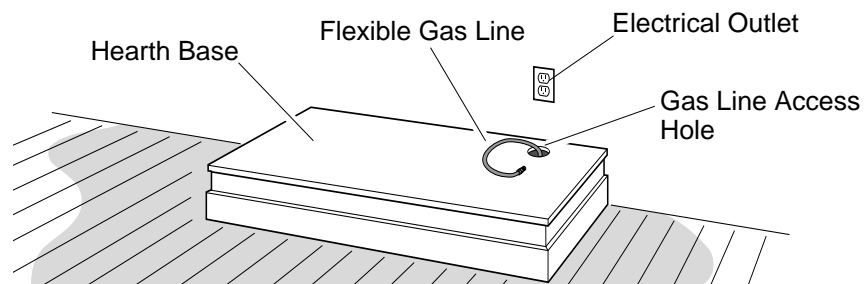

Figure 9 - Placing Hearth Base Accessory Against Wall
5. Cut an access hole in hearth base top to run flexible gas line to fireplace (see Figure 9). Make sure to locate access hole so cabinet mantel will cover it when installed. **Note:** You can secure base to floor using wood screws. Countersink screw heads and putty over.